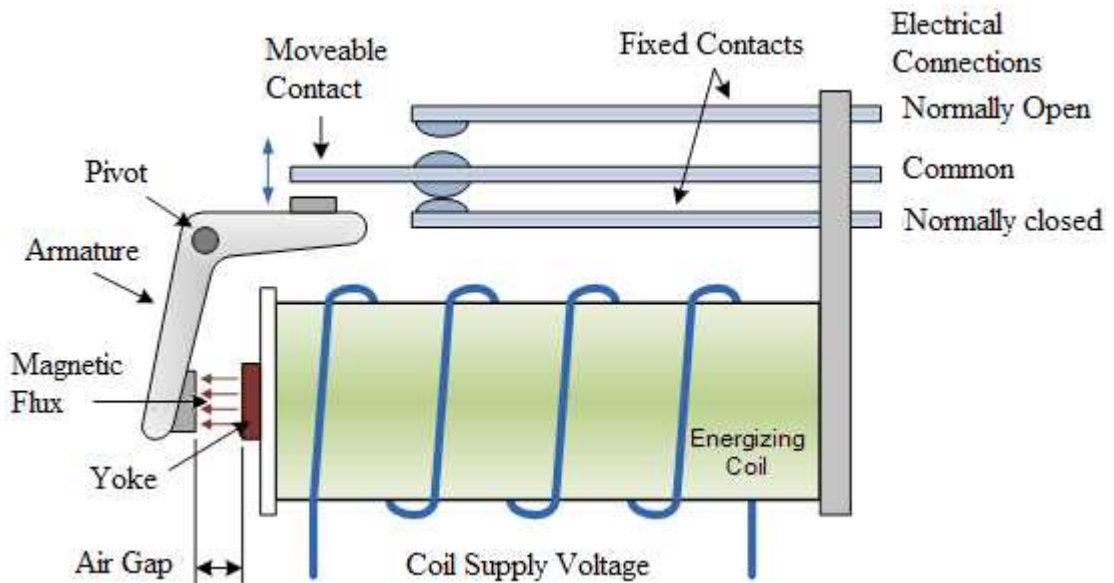

Figure 4-62: Electromechanical Relay construction
In the relay of figure 4-62, we have two sets of electrically conductive contacts. Relays may be “Normally Open”, or “Normally Closed”. One pair of contacts is classed as Normally Open, (NO) or make contacts and another set which is classed as Normally Closed, (NC) or break contacts. In the normally open position, the contacts are closed only when the field current is “ON” and the switch contacts are pulled towards the inductive coil.